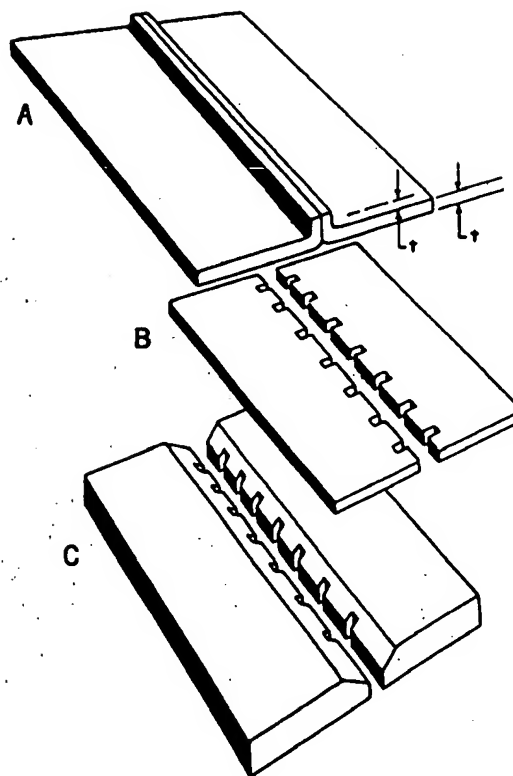

Figure 5-10.—Edge preparation for gas-welding aluminum.
**WELDING PREPARATION.**— The thickness of the aluminum determines the method of edge preparation. On material up to 0.062 of an inch, the edges should be formed to a 90-degree flange. The height of the flange should be about the same height, or a little higher, as the thickness of the material (fig. 5-10, view A). The only requirement for the flanges is that their edges be straight and square. If desired, material up to 0.125 of an inch can be welded with a flange joint. No filler rod is necessary if you flange the edges.
Unbeveled butt welds can be made on thicknesses from 0.062 of an inch to 0.188 of an inch; but in these applications, it is necessary to notch the edges with a saw or cold chisel in a manner similar to that shown in view B of figure 5-10. Edge notching is recommended in aluminum welding because it aids in getting full penetration and prevents local distortion. All butt welds made in material over 0.125 of an inch thick are usually notched in some manner.
In welding aluminum more than 0.188 of an inch thick, bevel the edges and notch them, as shown in view C of figure 5-10. The included angle of bevel maybe from 90 to 120 degrees.